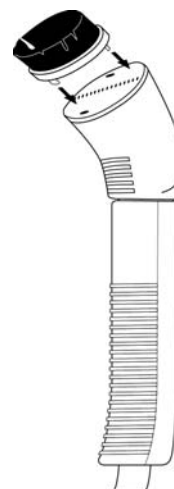

FIGURE 6
3. Press Fabric Brush firmly onto Steam Nozzle, until it fits snug and firmly in place (FIGURE 6).